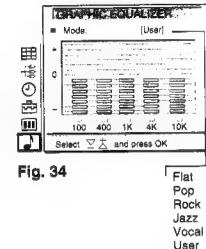

Fig. 34
- 1 Select »Sound Control« in the main menu, then select »Graphic Equalizer« using $\Delta+$ or $\nabla-$ and press OK. The GRAPHIC EQUALIZER menu appears (See Fig. 34).